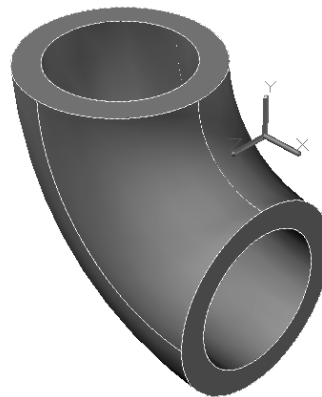

Figure 26-127 Resulting sweep feature
11. Set the view to **SE Isometric** by choosing the appropriate hotspot in the ViewCube. Also, select the **Realistic** option in the **Visual Styles** drop-down list in the **View** panel. The resulting model should look similar to the one shown in Figure 26-127.